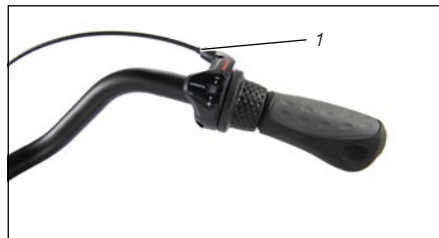
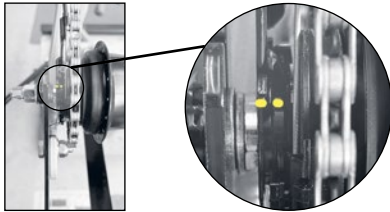

Fig.:52
Fig.:54
- To do this, turn the adjusting screw on the handlebar grip (see "Fig.:52") to the right or left until the yellow marking is exactly between the boundary lines.
3. To do this, turn the adjusting screw on the handlebar grip (see "Fig.:52") to the right or left until the markings on the rear wheel hub in the viewing window ("Fig.:54") are exactly opposite each other and form a line.